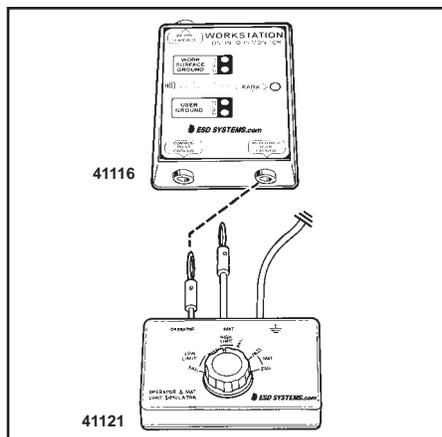

Figure 2. Connecting test lead from 41121 to 41116.
Step 2: Insert the calibration unit's banana plug marked "Operator" into the jack marked "Monitored User Ground" on the 41116 tester. See figure 2.